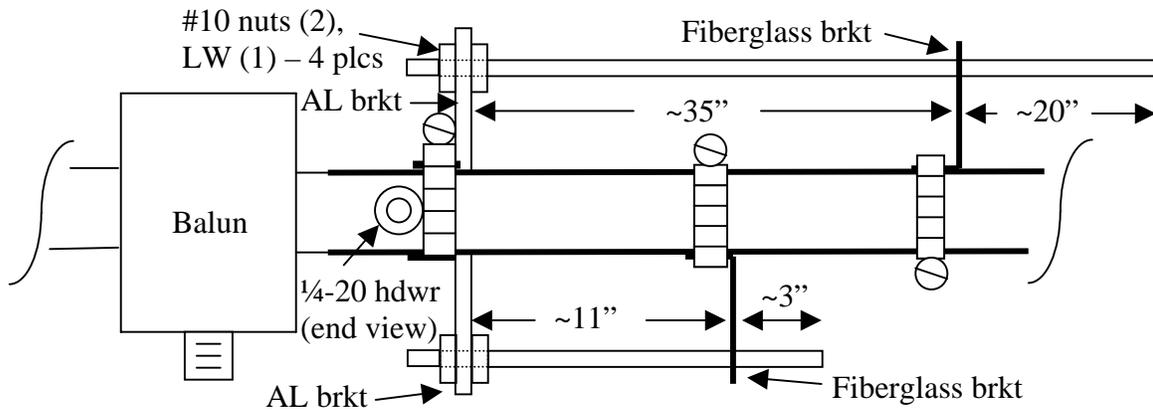

Figure 4: 6 and 2-meter stub assembly and mounting
- Slide four hose clamps over each aluminum tube. Slide two hose clamps (one on each aluminum radiator tube) up against the 1/4-20 hardware and clamp the four aluminum stub channel brackets (two on each radiator) on opposite sides of the aluminum radiator tubes as shown in Figure 4.
- Using eight hose clamps (four on each radiator), clamp the fiberglass insulators so as to support the 16" and 55" threaded rods. Position the insulators as shown in Figure 4.
- Mount the four stubs by threading a 10-32 x 3/8" nut 1/2" near the end of the threads. Add a second nut and lock-washer to sandwich the bracket between the two nuts, leaving no more than 1/4" of threaded rod exposed beyond the aluminum bracket. See Figure 4.